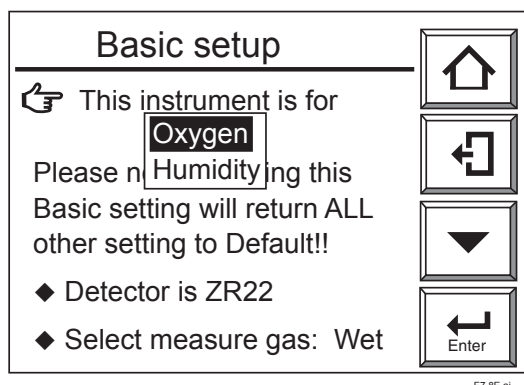

Figure 7.6 Equipment Setup
- (6) If the converter type is to be changed, press the [Enter] key. The display shown in Figure 7.6 then appears.
- (7) Use the [▼] key to select the type of equipment. Then press the [Enter] key to complete the converter selection.
- (8) If the type of converter is changed after setting the operating data, those data are then initialized and the default settings remain. Reset the operating data to meet the new type of equipment.
Combustion gases contain moisture created by burning hydrogen in the fuel. If this moisture is removed, the oxygen concentration might be higher than before. You can select whether the oxygen concentration in a wet gas is to be measured directly, or compensated for its dry-gas value before use. Select the "Select measure gas: Wet" in Figure 7.6 to select either wet or dry gas.